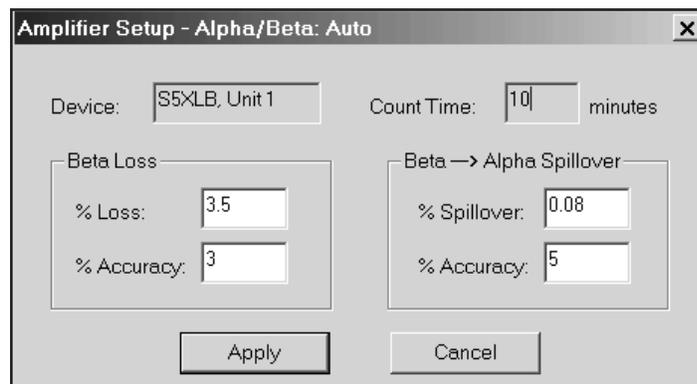

Figure 136 Amplifier Setup - Auto Screen
2. The Amplifier Setup - Alpha/Beta: Auto screen (Figure 136) appears. Enter the Beta Loss and Accuracy and the Beta → Alpha Spillover and Accuracy in percent.